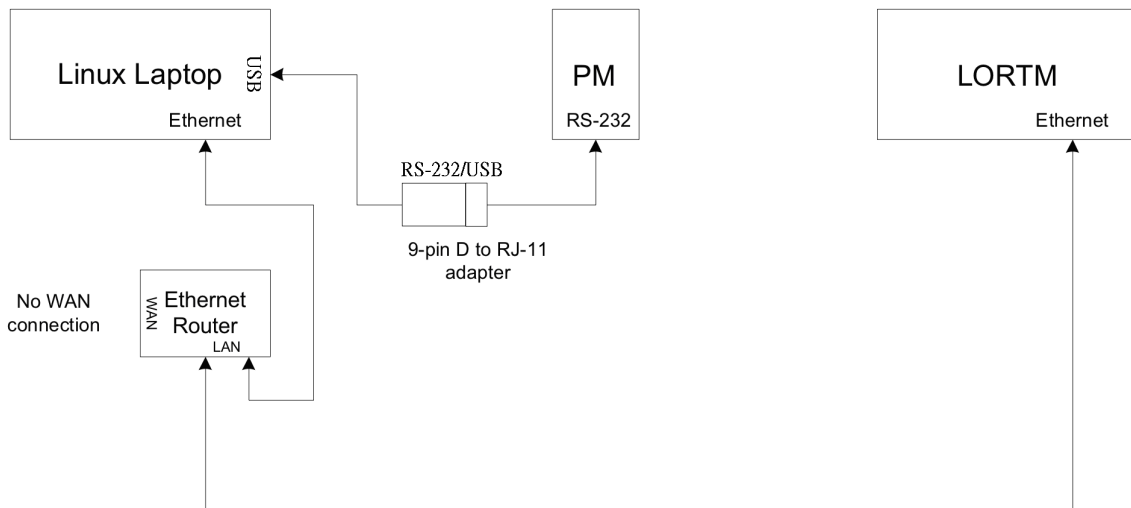

Figure 17 Network setup using the Power Meter (PM)
- The PM needs to be connected to the RS232/USB interface through a phone cable which in turn is connected to a USB port of the linux laptop (refer to Figure 17). Please make sure the PM is always connected to AC power, although it can operate for short periods of time from its internal battery pack. PLEASE make sure to turn on the power for the PM.